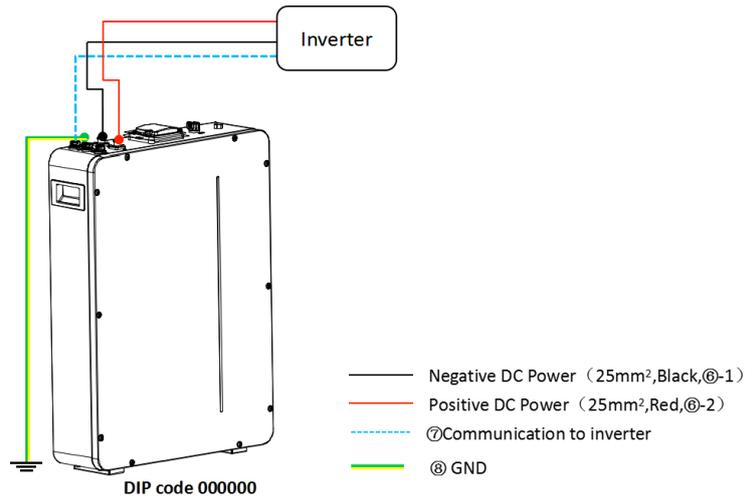

Fig. 4.1.1 Single-Set System Cable Connection Diagram (5kWh,Output Power 2.5kW)
6. Connect the other end of the communication cable to the inverter refer to Fig. 4.1.1.